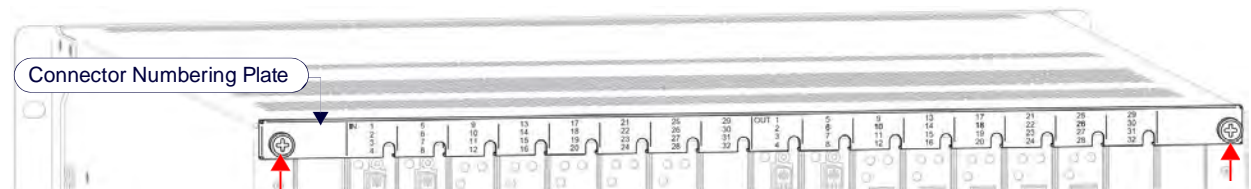

FIG. 145 Connector Numbering Plate (DGX 3200)
2. **Enova DGX 3200 only** – Loosen the captive screw on each end of the connector numbering plate above the boards (FIG. 145), and set the plate aside.